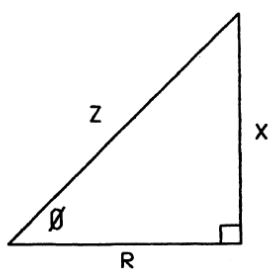

Figure 11 - RLC impedance triangle
39. The reactance (X) can be shown on the phasor diagram, then the phasor sum of the two quantities X and R can be shown as an impedance triangle as shown in Figure 11.